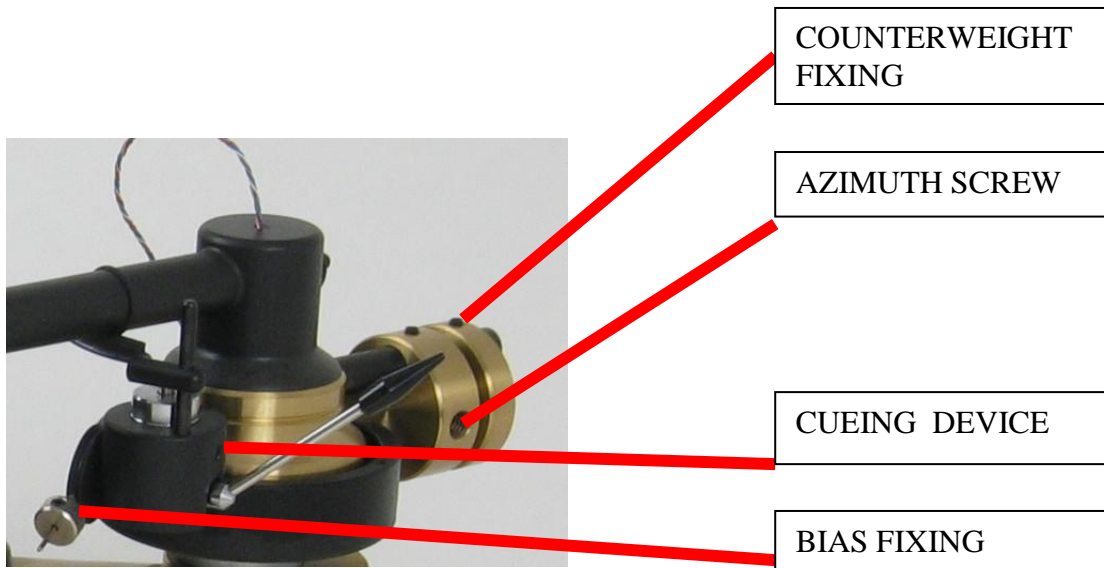

Fig.2.
Position the brass pillar into the T base of the turntable so that the tonearm bearing shaft is near to the platter spindle. At the same time both screws should be symmetrical but further away. See fig 2.
Carefully lift the tube base with counterweights and cable which, (for **transport only**) is fixed at the end of the tube. Position it gently onto the bearing shaft. The bearing pivot will automatically fit into the bearing cup on top of the bearing shaft. With Allen key (1.5 mm), release and then remove the metal holder and cable from the back of the tube and carefully fix it on the outside of the bearing base. Rotate the cable in such a way that the wires rise vertically. Then fix it with Allen key 1.5 mm. With fingers gently arrange the wires into a loop. (See Fig.2 and arrow on Fig. 5)